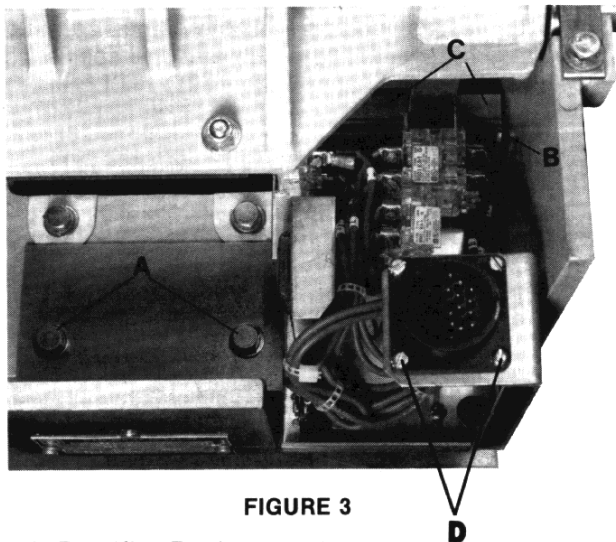

FIGURE 3
To replace these components, the contactor control assembly must be removed. Access to the control assembly mounting hardware is achieved after removing the magnet assembly (See MAGNET COIL REPLACEMENT section). Remove bolts (A) (See Figure 3) and remove control assembly from contactor. After servicing assembly, reinstall contactor control assembly. Before tightening bolts (A) ensure that operator tab (B) is centered between control assembly flanges (C) (See Figure 3).
The complete receptacle can be removed from the contactor control module by removing hardware (D) (See Figure 3) and sliding receptacle out of mounting slot.